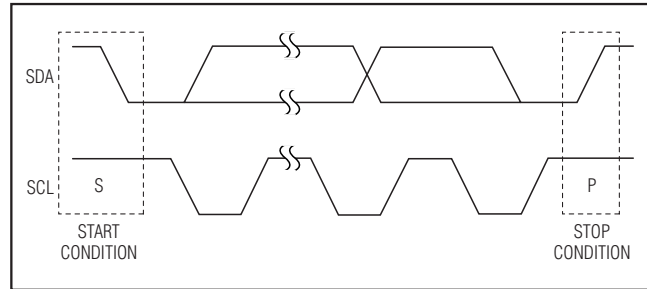

Figure 3. START and STOP Conditions
Each transmission consists of a START (S) condition (Figure 3) sent by a master, followed by the MAX5477/MAX5478/MAX5479 7-bit slave address plus the NOP/ \bar{W} bit (Figure 4), 1 command byte and 1 data byte, and finally a STOP (P) condition (Figure 3).
communicating with the slave. The bus is then free for another transmission (Figure 3).